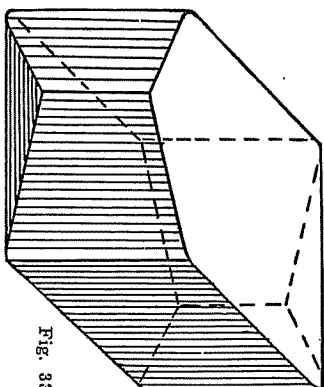

Fig. 33
**Crystal System**—Crystals usually prismatic in habit. (Fig. 33-.)